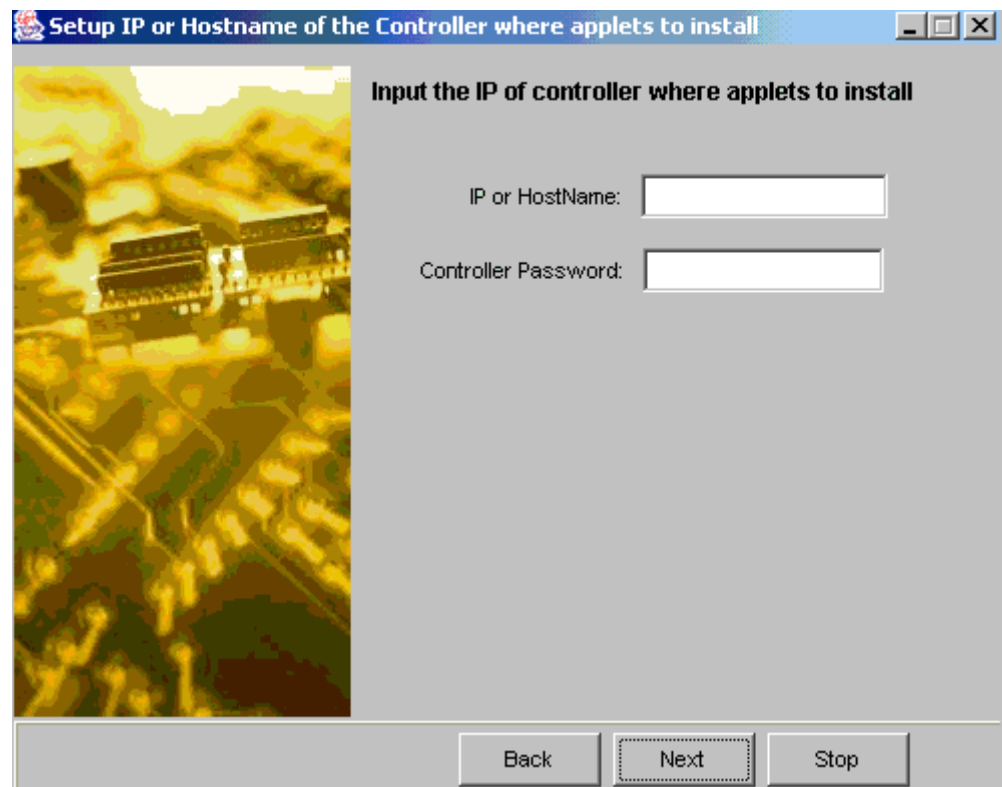

Figure 2-10: Input IP and Controller Password
Step 4. As shown in *Figure 2-10* above, enter the IP address or the hostname of the controller and the controller password in the respective fields. The default controller is blank and it needs to be configured in RAIDWatch.
Step 7. If you wish to immediately access the RAIDWatch manager then open a web browser and type in the IP address that you used in *Figure 2-10* with the associated filename.
where `www.xxx.yyy.zzz` is the IP address entered in *Figure 2-10*.